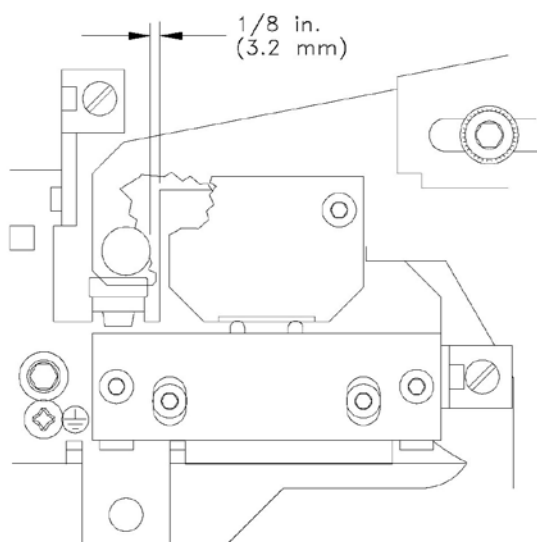

Figure 27 Verify Interlock Gap
4. Verify the gap in the interlock assembly is approximately 1/8" (3.2 mm). See Figure 27.